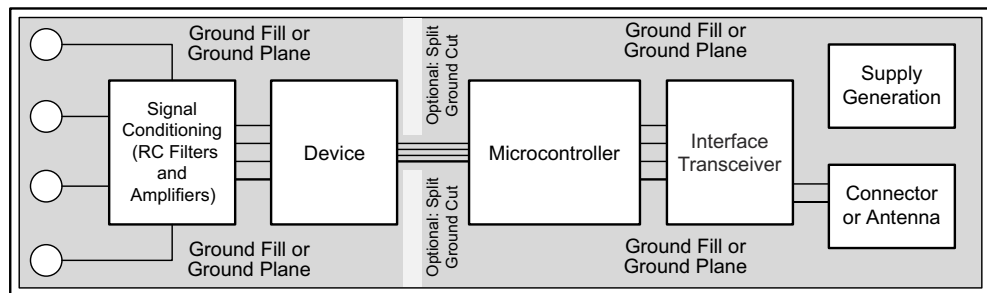

Figure 11-1. System Component Placement
Employ best design practices when laying out a printed-circuit board (PCB) for both analog and digital components. For optimal performance, separate the analog components [such as ADCs, amplifiers, references, digital-to-analog converters (DACs), and analog MUXs] from digital components [such as microcontrollers, complex programmable logic devices (CPLDs), field-programmable gate arrays (FPGAs), radio frequency (RF) transceivers, universal serial bus (USB) transceivers, and switching regulators]. An example of good component placement is shown in Figure 11-1. Although Figure 11-1 provides a good example of component placement, the best placement for each application is unique to the geometries, components, and PCB fabrication capabilities employed. That is, there is no single layout that is perfect for every design and careful consideration must always be used when designing with any analog component.